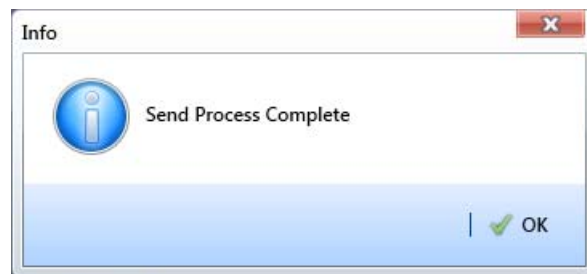

Figure 8-26. Send Process Complete
- 28 When a message displays confirming the send process is complete, click  **OK** to close the message (Figure 8-26). PCS Axis sends the survey file to the *PSData* folder on the Allegro.